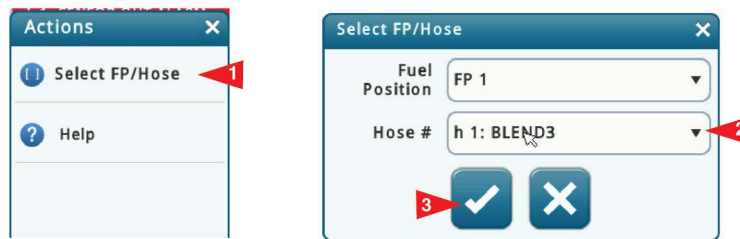

Figure 67. Selecting Fuel Position and Hose
3. Touch the Actions button, then select a Fuel Position (FP) and Hose (item 1 Figure 67), Hose # (item 2) and touch the ☒ button to display the vapor collection events for the selected hose (fig).